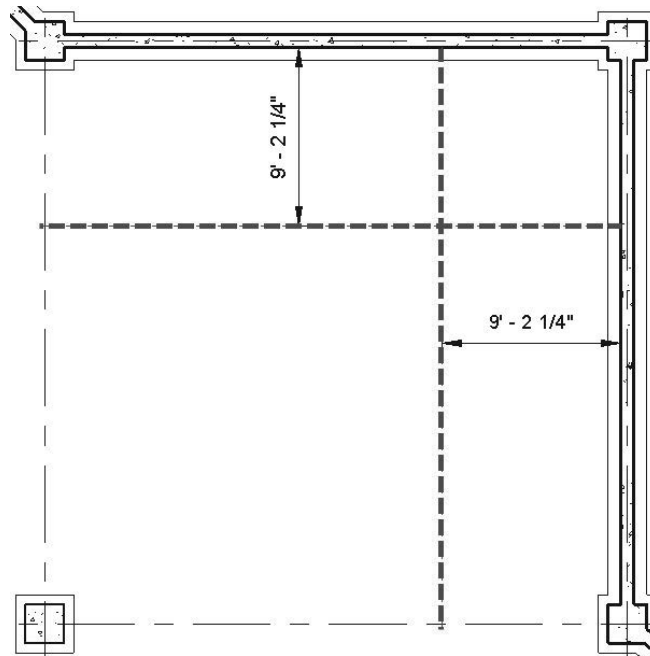

Figure 7–53
5. Hover your cursor over the foundation wall (not the bearing footing) along grid line **B**. When the preview line is on the inside of the wall, click to place the reference plane. Repeat this for the wall along grid line **10**, as shown in Figure 7–53. (The dimensions in the image are for reference only.)